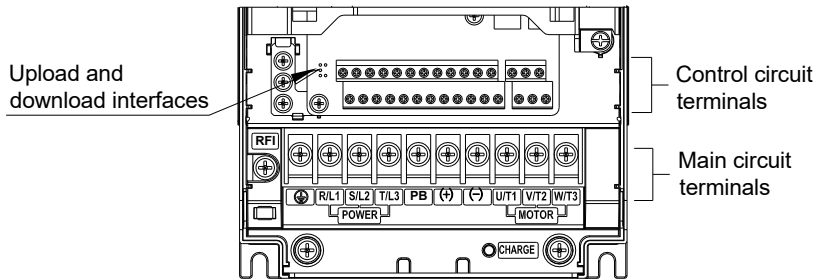

Fig.3-12 4 ~ 15kW Schematic of main circuit terminals
Weak analog voltage signals are easy to suffer external interference, and therefore the shielded cable must be used and the cable length must be less than 20 m, as shown in following figure. When the analog input signal to an external power supply , AI1 Terminal wiring as shown in Fig 3-12
- (a).When the input analog voltage signal is potentiometer , AI1 Terminal wiring as shown in Fig 3-12